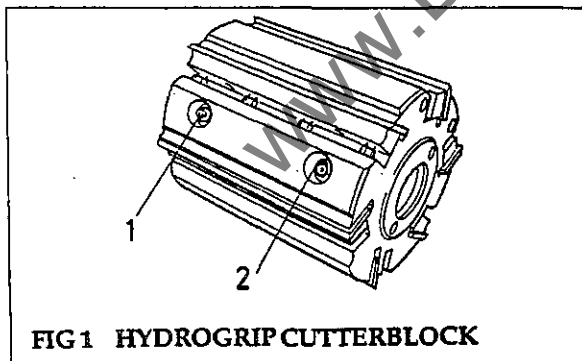

FIG1 HYDROGRIP CUTTERBLOCK
Hydrogrip cutterblocks (fig 1)
- (1) Carefully clean spindles, cutterblocks, spacers and collars before fitting new cutterblocks.
- (2) Carefully place the cutterblock on the spindle. After fitting the cutterblock, replace the outboard bearing assembly and pressurise the bearing to 300bar hydraulically. On the hydrogrip blocks tighten pressure release screw (2), and pressurise the cutterblock by applying hydraulic pressure to the pressure nipple (1) located in a recess located on the barrel of the block (see fig 1).
GENERAL (Fig.1)